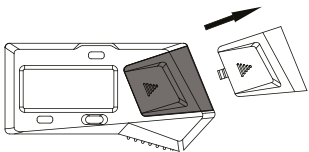

fig 1.
- Remove the battery cover (fig 1.).